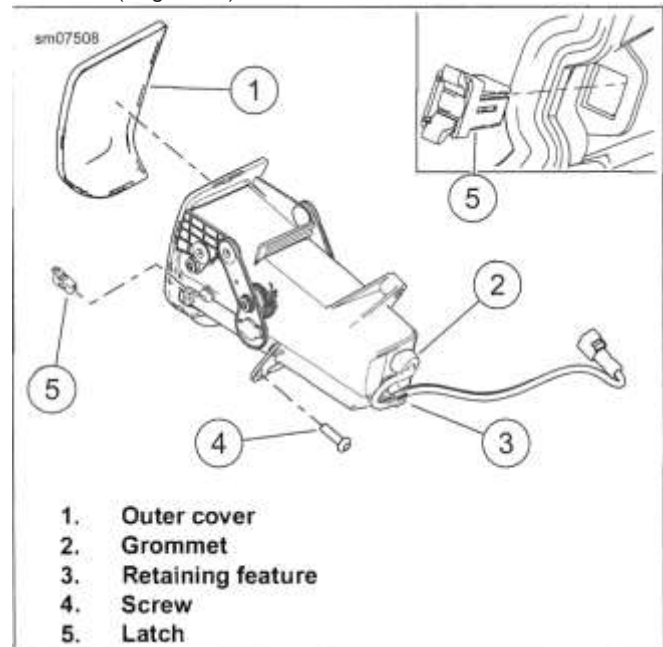

Figure 3-109. Media Compartment
2. See Figure 3-109. Remove screw (4).
1. See Figure 3-109. Place media compartment into position.
2. Install screw (4). Tighten.